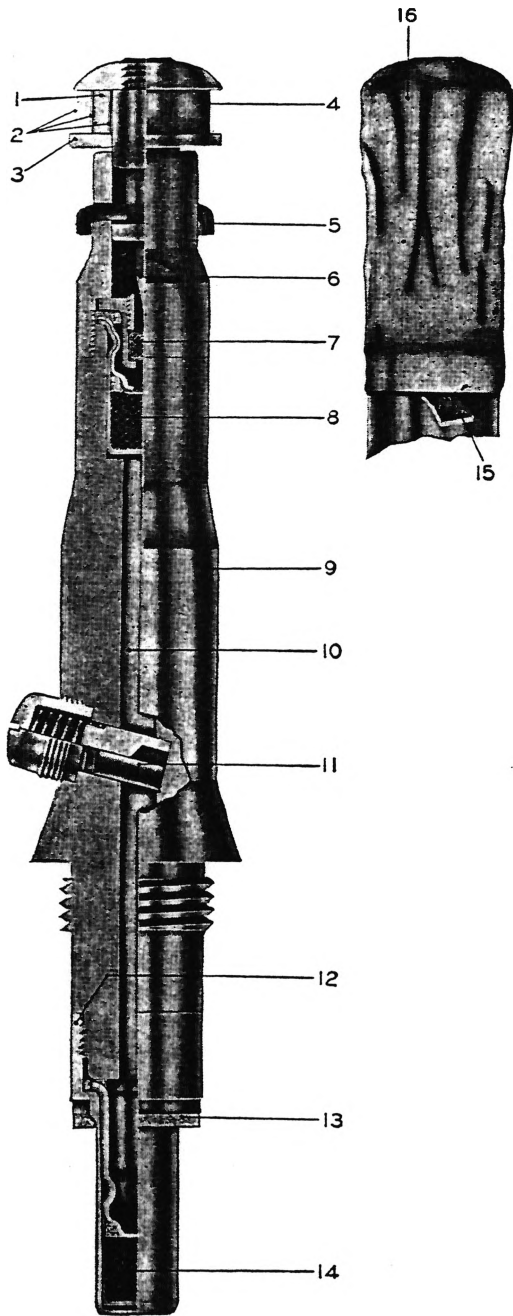

FIG. 12.—Point detonating fuze, Mk. III
- (1) Point detonating fuze, Mk. III or III-A (fig. 12).
15. Point detonating fuze, Mk. III.—*a. Description.*—(1) The point detonating fuze, Mk. III (P. D. F. Mk. III), is a super-quick fuze; it is used when it is desired to secure a quick burst above ground with the least possible penetration of the projectile. It is authorized for use in the Mk. III high-explosive shell and the Mk. VII chemical shell. The design of this fuze is practically the same as that of the French 24/31 I. A. L. M1916 (Instante Allongé Lefevre, or the instantaneous elongated fuze of the Lefevre design). Figure 12 shows this fuze, together with the names of the principal parts. The Mk. III-A fuze differs from the Mk. III only in a different arrangement of the upper detonator. These two fuzes are very similar in appearance and are fully interchangeable in use.